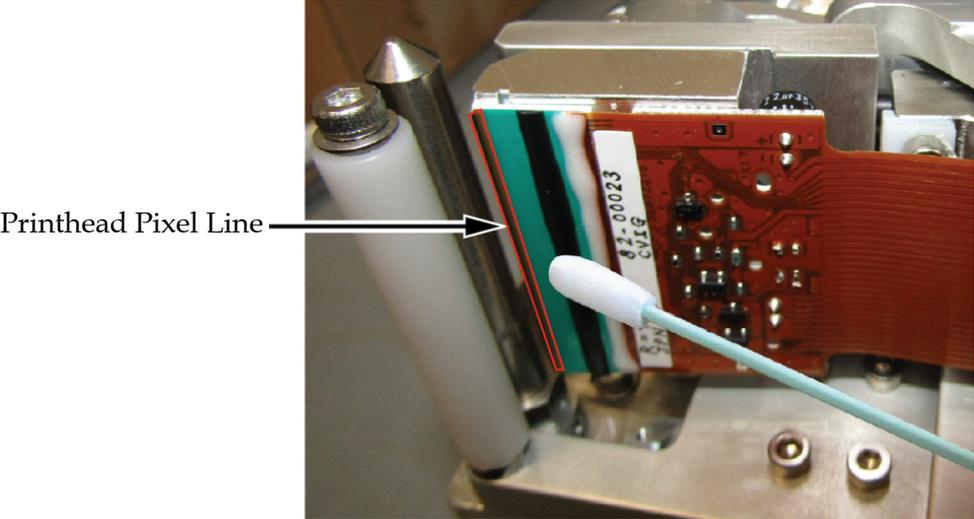

Figure 7-1: Printhead Cleaning
- 4. Clean the printhead pixel line from top to bottom (Figure 7-1), the white cassette rollers and the peel roller gently, using the cleaning swabs or wipes provided with the printer. The cleaning kit will contain Videojet approved pre-soaked cleaning wipes or swabs.